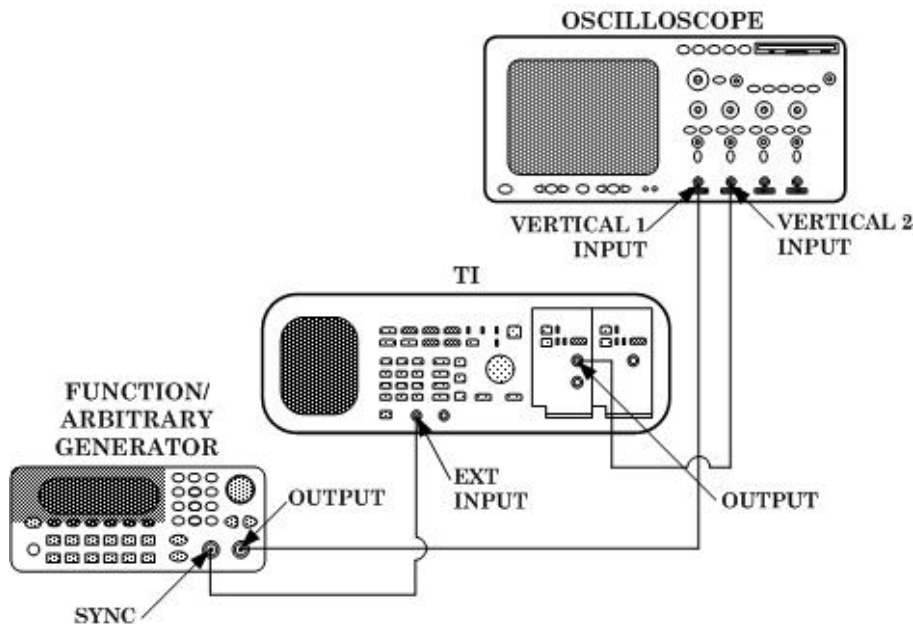

Figure 4. Trigger level and polarity.
(1) Connect equipment as shown in figure 4 below.
- (1) Connect equipment as shown in figure 4 .
- (2) Press TI pushbuttons as listed in (a) through (m) below: